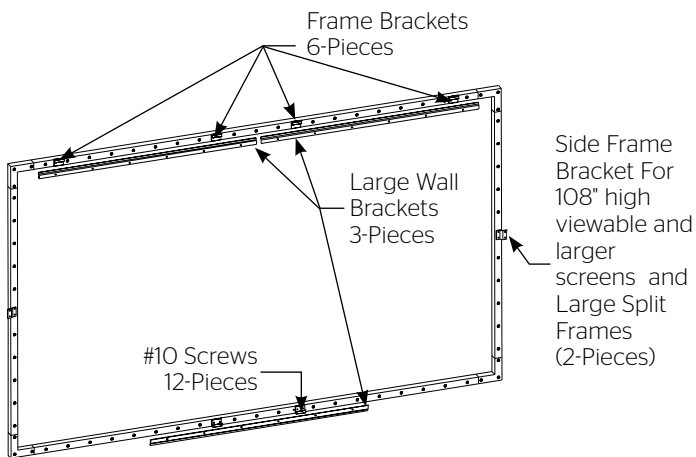

Figure 8
1. Use the supplied #10 screws to attach six frame brackets to the back of the frame as shown in Figure 8.
4. For screen 108" high viewable and over and larger screens with 2-piece side frame rails you will need to attach one side frame bracket to each side frame rail. Use the black #10 screws supplied. See Figure 8.